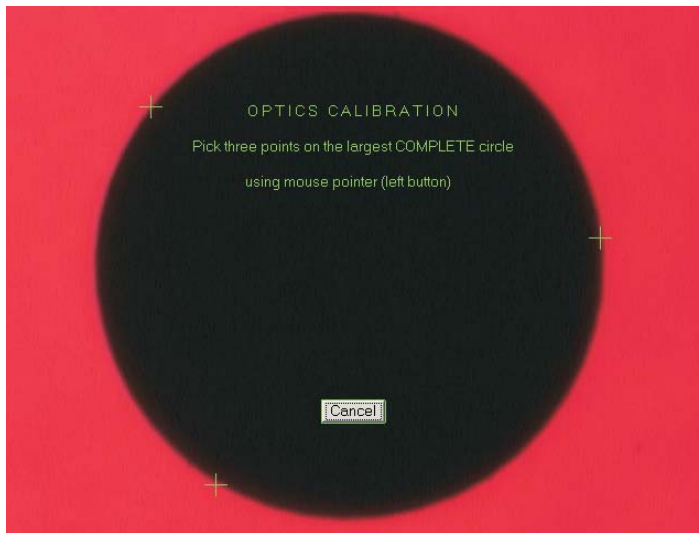

Figure 4-3. Image of LED Reticle
13. Select three points on the largest complete circle that fits in the Image window (see Figure 4-3). Make sure the points are equally spaced.